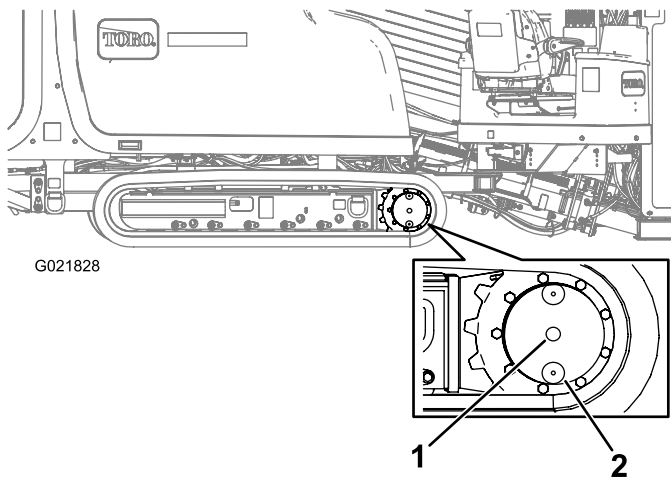

Figure 133
2. Clean the area around the oil-level plug with a cleaning solvent (Figure 133).
3. Remove the oil-level plug (Figure 133).
2. Clean the area around the oil-level plug (Figure 133).
3. Rotate the planetary drive until the oil-drain plug is directly below the oil-level plug (Figure 133).